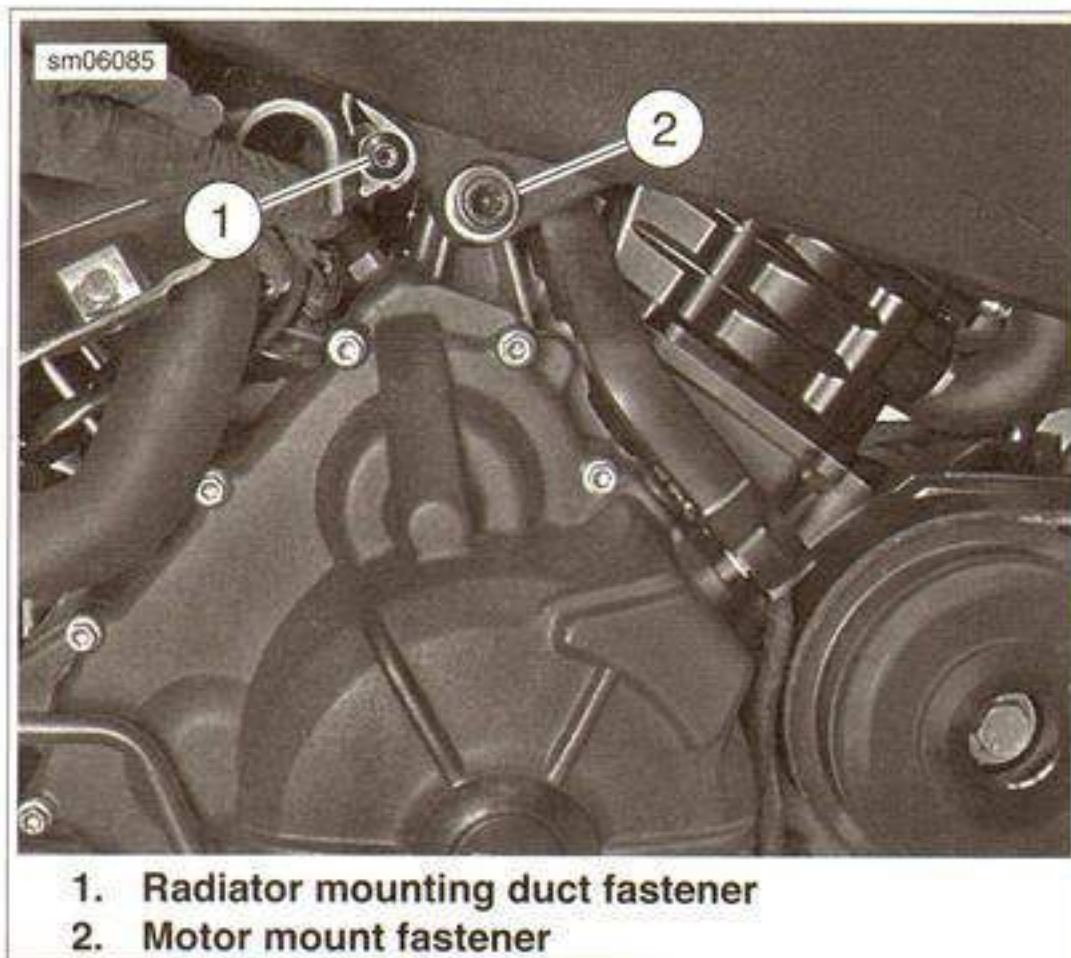

Figure 3-8. Left Center Motor Mount
7. See Figure 3-8. Remove radiator mounting duct fasteners (1) on both sides of motorcycle.
4. See Figure 3-8. Loosen center motor mount pinch bolt and remove center motor mount fastener (2).
3. See Figure 3-8. Install left center motor mount fastener (2). Do not tighten at this time.
- b. See Figure 3-8. Left center motor mount fastener.